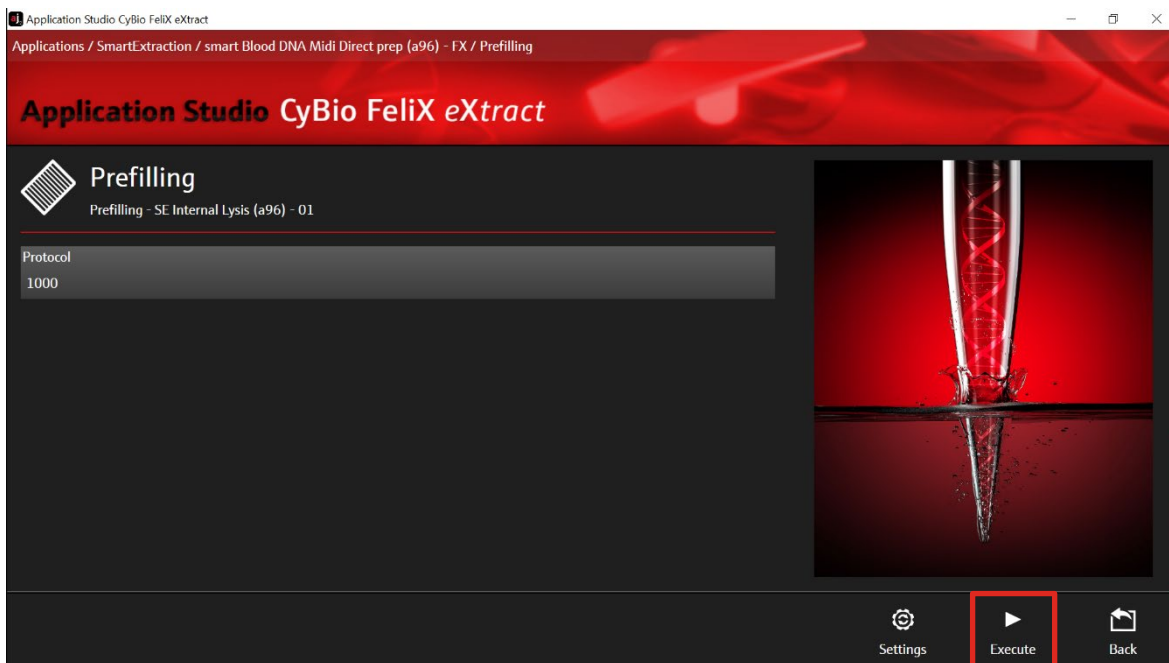

Figure 26: Selection of the prefilling protocol for up to 1000 μ L sample volume.
17. After selecting "Prefilling" the Prefilling Start Screen appears (→ see Figure 26).
19. To adjust the sample volume, click the button “Protocol”. Choose “1000 μ L” for sample volumes between 600 and 1000 μ L (→ see Figure 26).